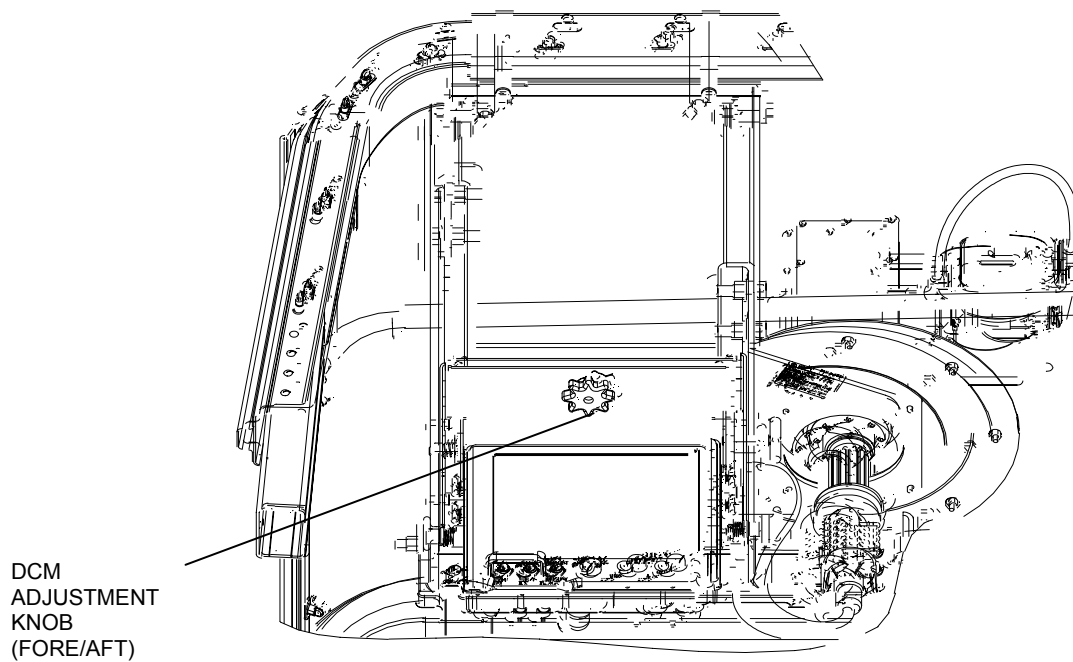

Figure 4-11. Large Adjustment Knob at Top
11. Loosen display adjustment knob at top, position DCM fore (forward) and aft (backward), and retighten knob (Figure 4-11).
7. Position DCM fore and aft using large adjustment knob at top and retighten knob. See Figure 4-11.